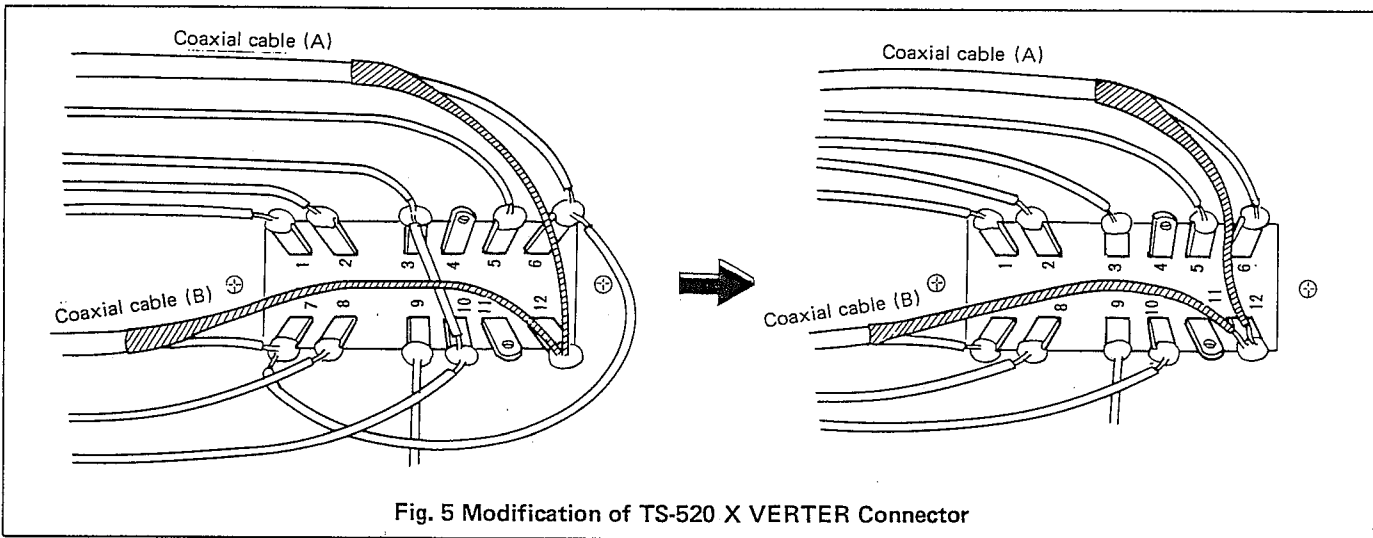

Fig. 5 Modification of TS-520 X VERTER Connector
2. Change the wiring of the X VERTER connector as shown in Fig. 5. Remove the shorting wires between No. 3 and No. 10 and between No. 6 and No. 7 of the X VERTER connector.